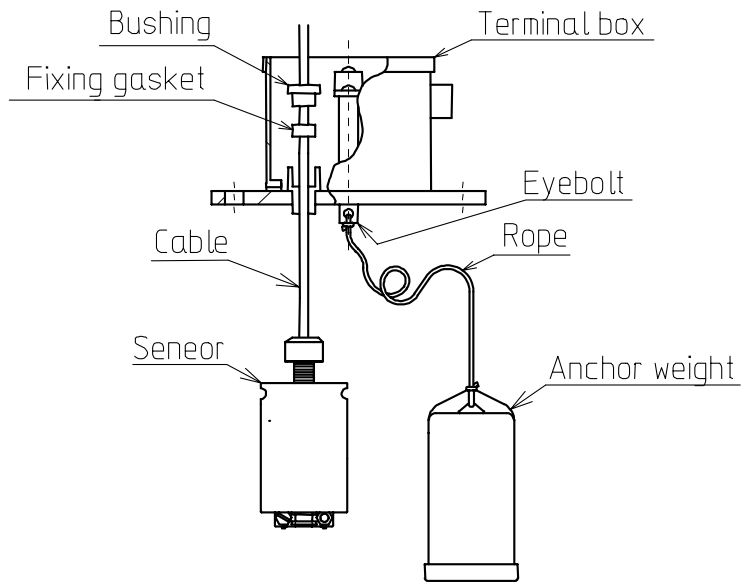

Fig. 6
- (1) Remove the cover (by turning it counter clockwise).
- (2) Fasten one end to the eyebolt on flange and the anchor weight to another end of rope according to depth of the tank.
- (3) Put in the cable into the flange from wetted side, and then put the fixing gasket and the bushing into the cable (Refer to Fig. 6).